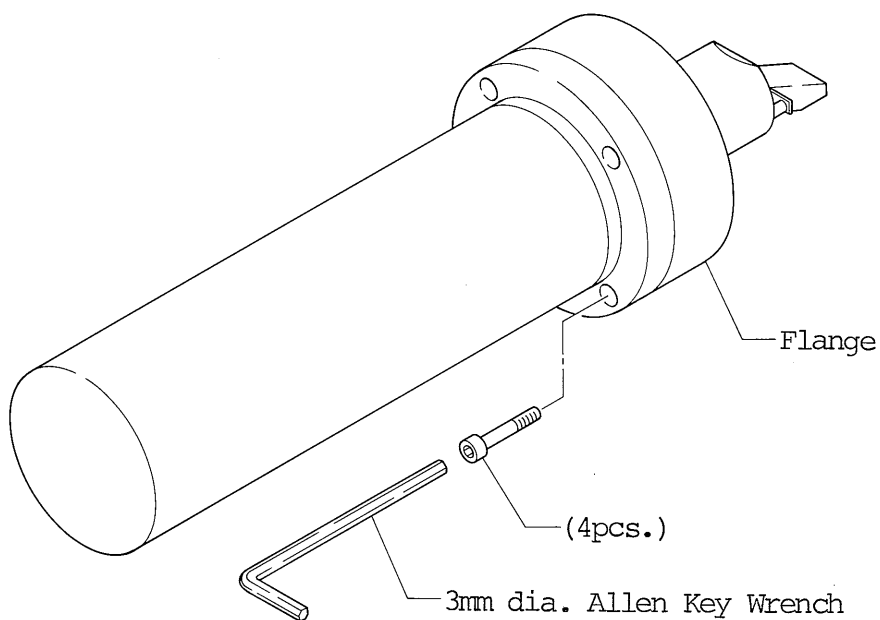

Fig. 6.7-1 Taking Out Deflector
2. Loosen 4 pieces of Allen screws that tighten the detector and remove the detector from specimen chamber (refer to Fig. 6.7-1).